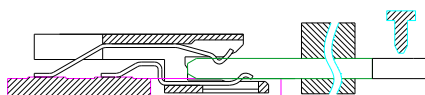

Fig. 9.1
**Step 1st:** Loose the screw by hand (see Fig. 9.1).